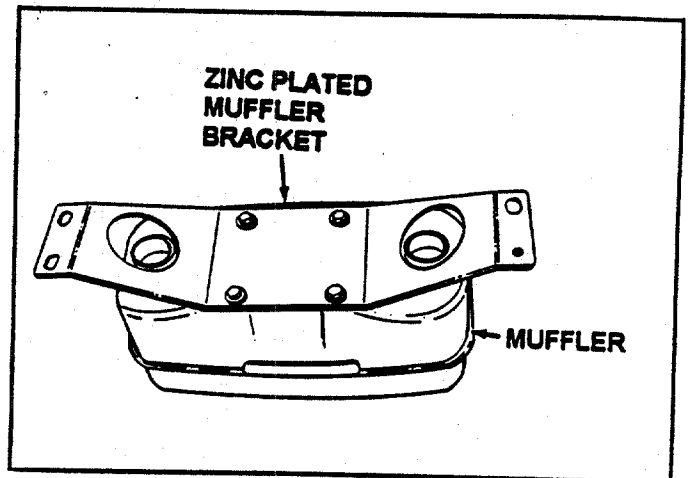

FIGURE 2
- 4. REPLACE THE PAINTED MUFFLER BRACKET. SEE FIGURE 2**